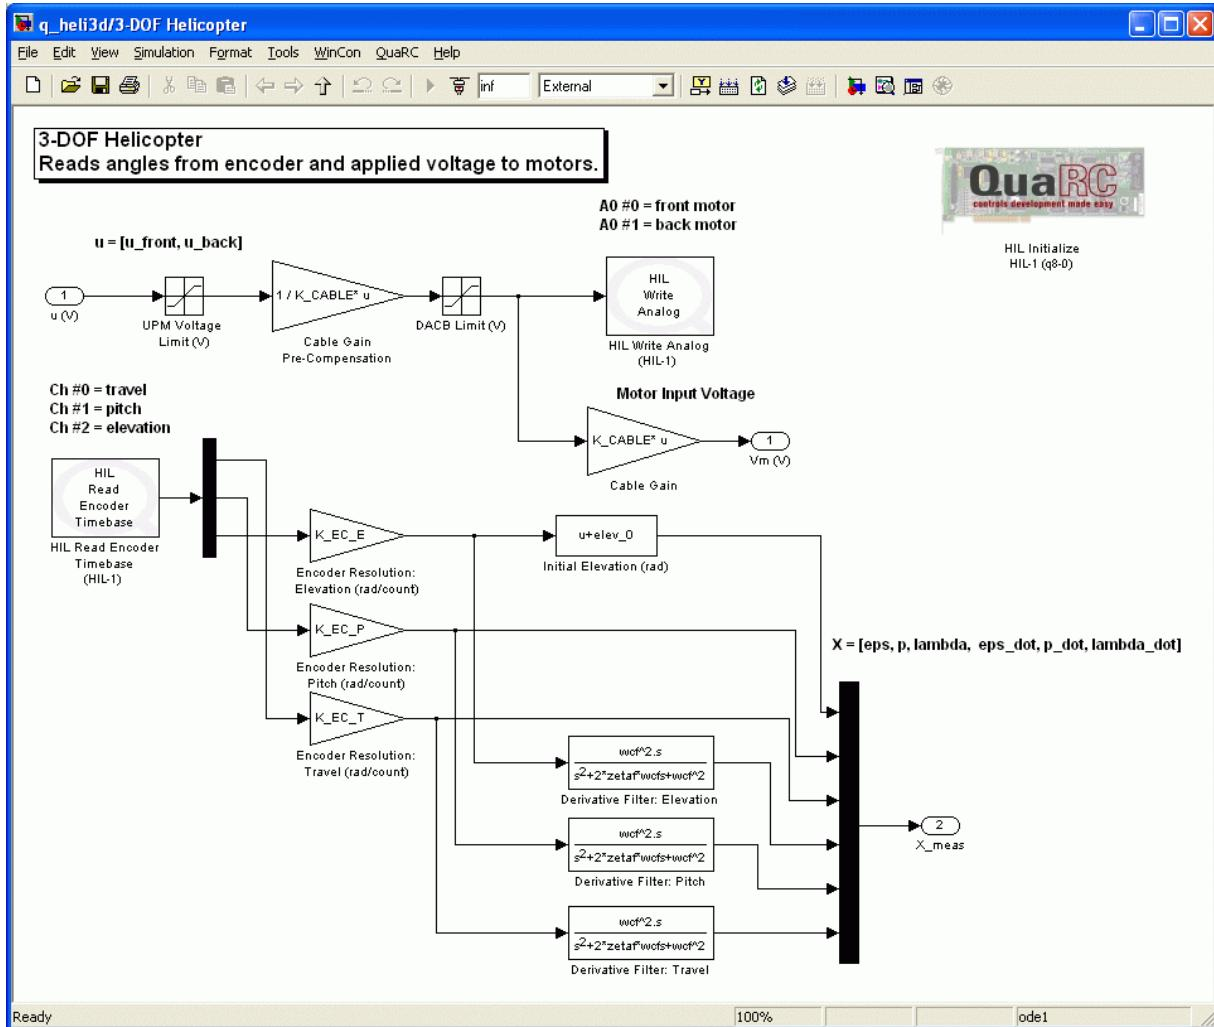

Figure 29: 3-DOF Helicopter subsystem used to interface with hardware.
5. Open the 3-DOF Helicopter subsystem shown in Figure 29. It contains the QuaRC blocks that interface with the hardware of the actual plant. The Analog Output block outputs the voltage computed by the controller to the DACB and the Encoder Input block reads the encoder measurements.
6. **Configure DAQ:** Double-click on the HIL Initialize block in the Simulink diagram and ensure it is configured for the DAQ device that is installed in your system. By default the block shown in Figure 29 is setup for the Quanser Q8 hardware-in-the-loop board.